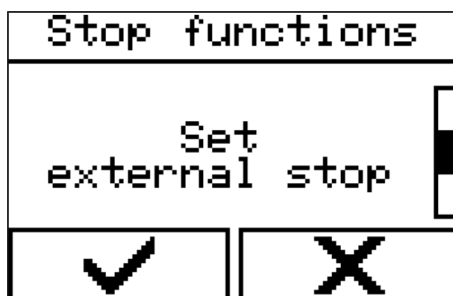

Fig. 105: Selecting a menu
1. ➔ Select the menu via 'Control' → 'Stop functions' → 'Set external stop' (Fig. 105).